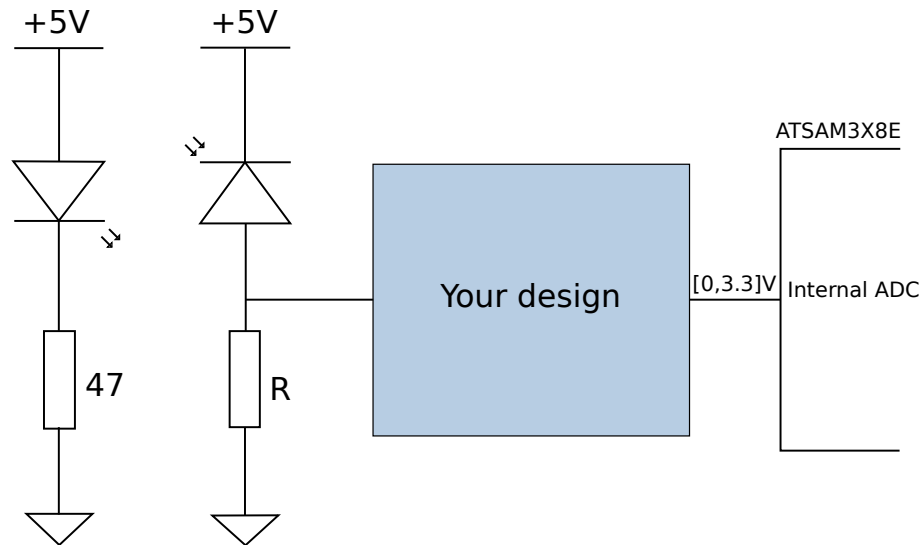

Figure 26: Suggested IR assembly
7. Connect the IR diodes in a way that makes it possible to detect when the IR beam is blocked. An example is given in Figure 26. You might consider implementing an analog filter. **Check that the signal is correct before connecting it to the microcontroller**